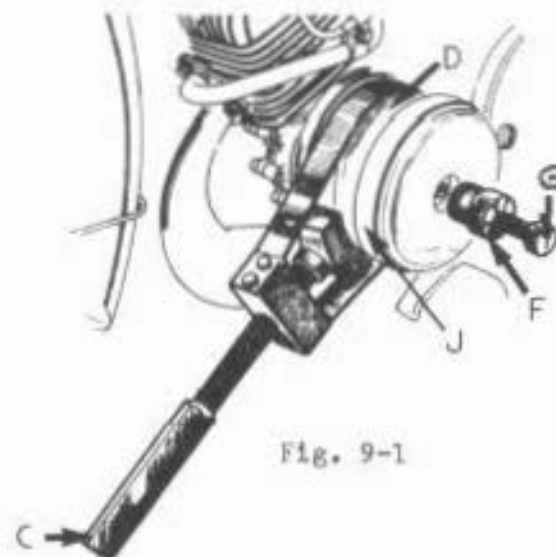
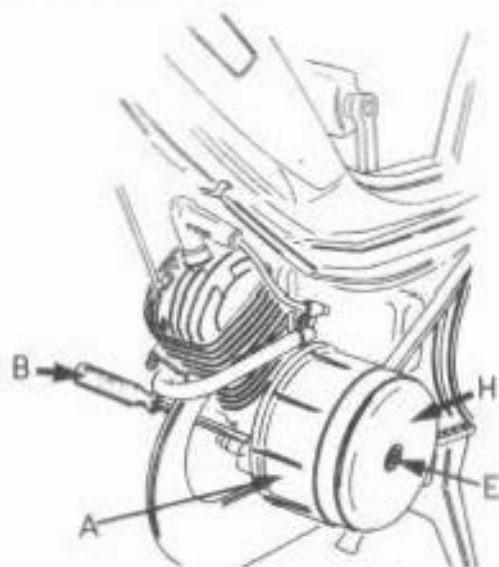

Fig. 9-1
Fig. 9-2
- 1) Remove plastic cover "A" Fig. 9-2 using thin bladed screwdriver between edge of stator plate and plastic cover "B" Fig. 9-2 it is a snap-on fit and will snap off, by gently prying at 3 or 4 points around the edge.
- 2) Tighten universal wheel vice #1291, "C", Fig. 9-1 on flywheel "D" Fig. 9-1.
- 3) Remove clutch drum nut "E" Fig. 9-2 (R.H. thread)
- 4) Screw clutch puller #15141 into hub of drum see "F" Fig. 9-1 (keeping a firm grip on tool 1291) and progressively tighten centre screw "G" Fig. 9-1 (R.H. thread). The clutch drum "H" Fig. 9-2, which is splined to the crank shaft will now pull off easily.
- 5) The clutch hub assembly "J" Fig. 9-1 can now be pulled off the shaft. It may be necessary to turn the clutch hub a little left or right to line up the grooves in the clutch hub with the grooves on the crankshaft before it will pull off easily.
- 2) Place clutch drum "G" Fig. 10-1 on splines on the shaft, push on as far as possible and finally install clutch nut and tighten. Hold the flywheel with tool 1291 to securely tighten the clutch nut. See Fig. 9-1, page 9.